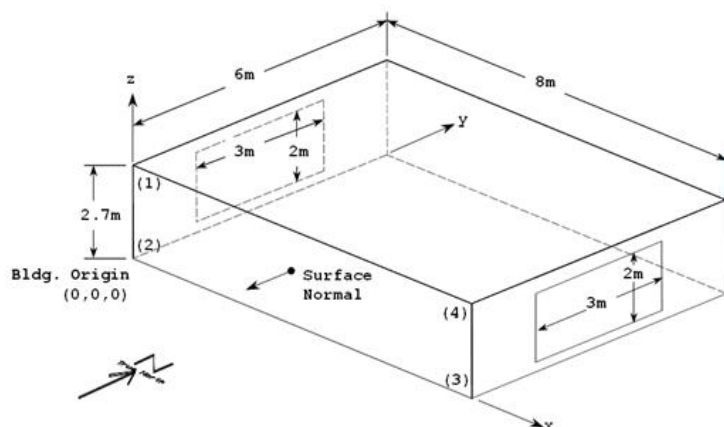

Figure 11. Schematic for Exercise 1
5. Add the east window (3m wide by 2m high, centered on wall, see the drawing in Figure 11 to determine coordinates):
- Vertex coordinates = as determined from the drawing Figure 11. Coordinates in this input are in World Coordinates (all relative to the global origin of 0,0,0). Coordinates are specified as viewed from the outside of the surface, using the rules specified in the SurfaceGeometry object.